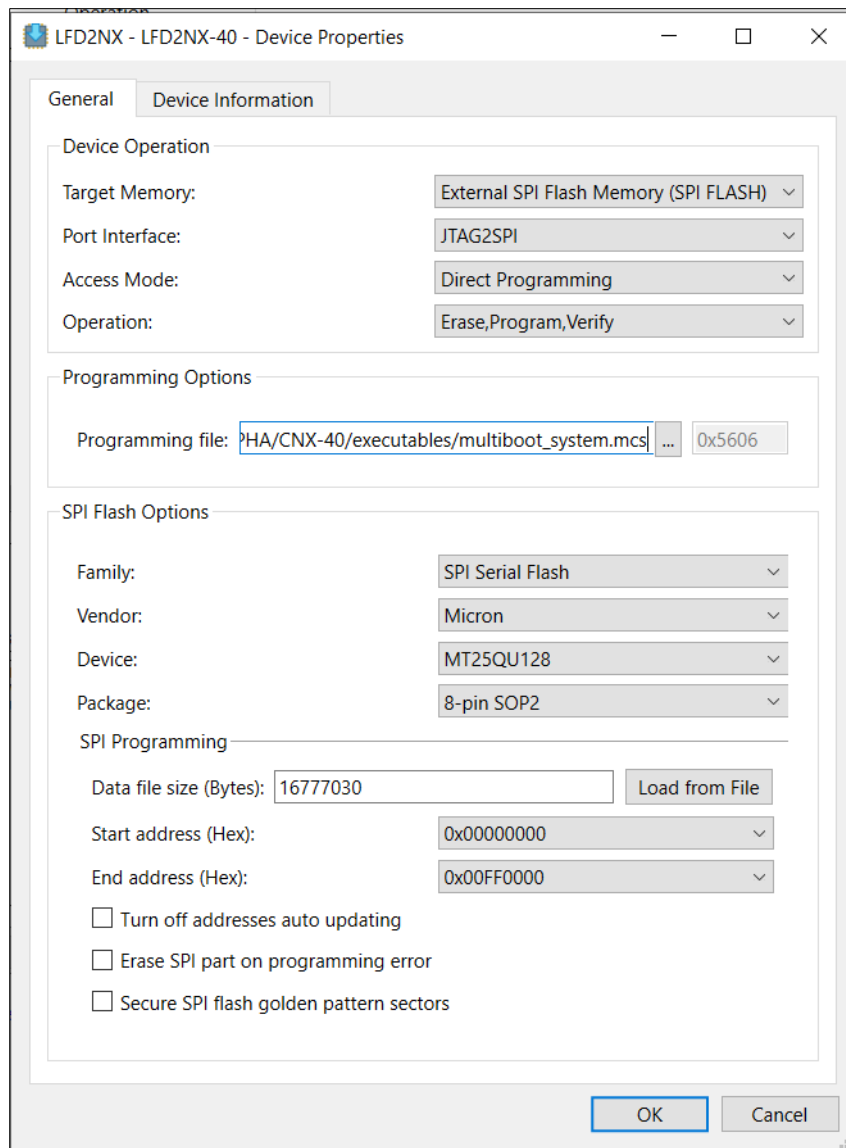

Figure 6.27. Device Properties Window to Setup MCS Programming File
3. To program the **multiboot_system.mcs** file, locate the file in the executables folder that you downloaded and add the file in the Programming file area. The Start Address and End Address are allocated automatically. Confirm the settings as shown in Figure 6.27.